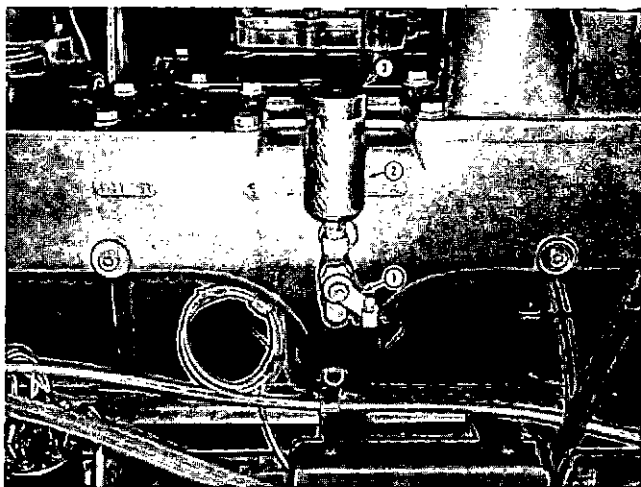

Fig. 2-5, N11841. Ether compound metering equipment
1. Close shut-off cock (1, Fig. 2-5). If properly installed, the spring will hold it closed.
2. Remove cap (2) and insert capsule of starting fluid.